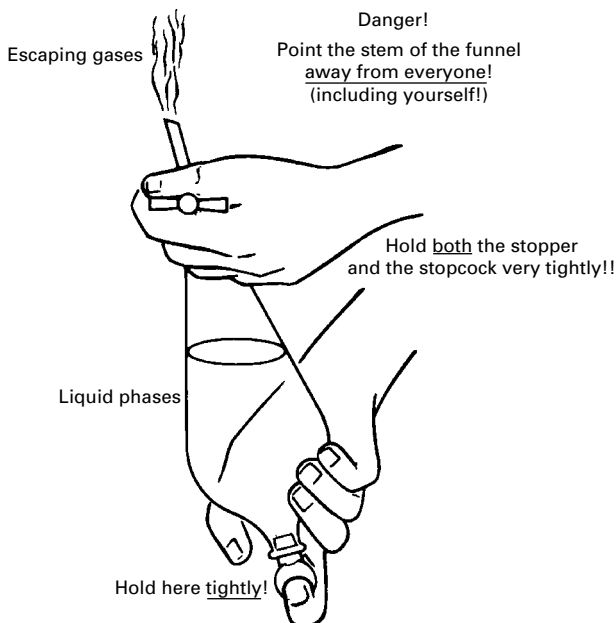

FIGURE 15.4 Holding a sep funnel so as not to get stuff all over.
7. Invert the sep funnel (Fig. 15.4).